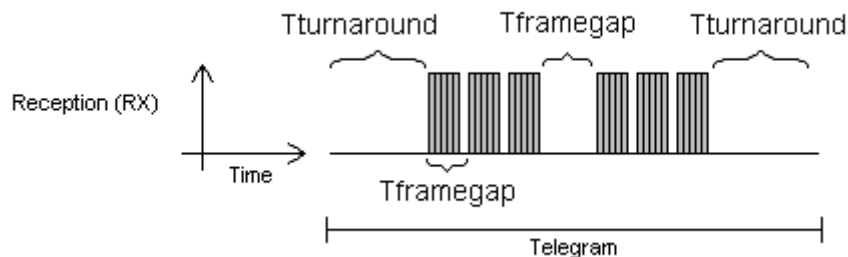

Figure 3.3: BACnet data reception
**Reception (RX):** The maximum time between bytes ( $T_{framegap}$ ) is of 20-bit times, and the minimum time between frames ( $T_{turnaround}$ ) after the last byte stop bit is of 40-bit times, according to the Figure 3.3.
**Transmission (TX):** The RTS signal must be disabled after the end of the stop bit time ( $T_{postdrive}$ ), which is of 15-bit times.